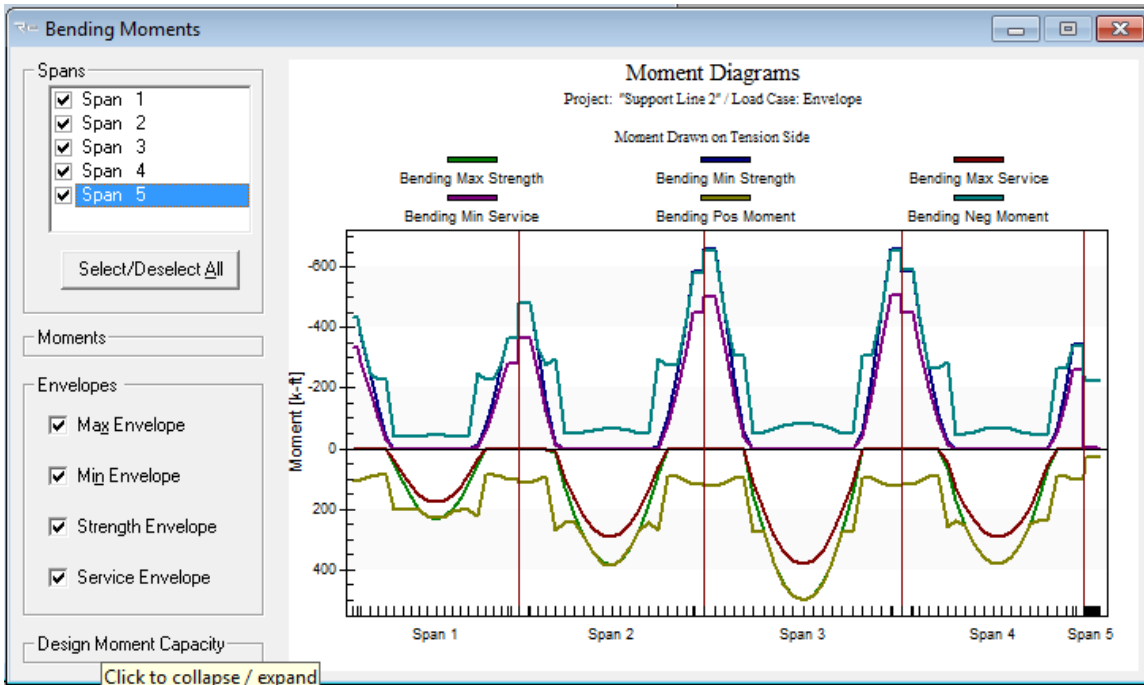

Figure 1.3-5
**Moment Diagram** button  displays forces for selected load combinations or envelop as shown in **Figure 1.3-5**.